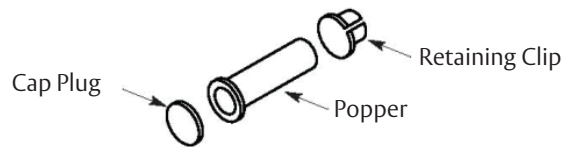

Figure 2
Popper assembly required for ED5470 (B) Series Fire-Rated Devices with Less Bottom Rod (M55 Option). (Figure 2)